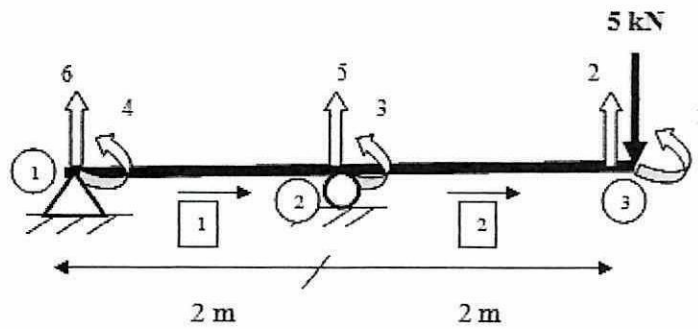

Figure Q4.1
**Q4** Figure Q4.1 shows a beam with a total length of 4m, subjected to a concentrated load at the end. This beam comprising two members and three nodes. Every node has two degrees of freedom. Node 3 experiences a vertical load of 5 kN applied to it. EI is constant. Using the direct stiffness matrix method, determine the following: